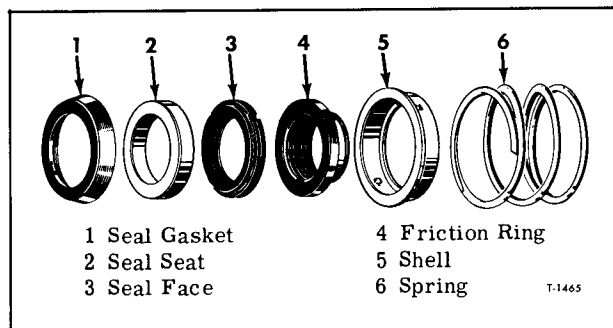

Figure 4—Hydraulic Pump and Motor Shaft Seal Components
1. Remove key (1) from keyway in shaft (18).
2. Remove bolts (17) which secure pilot (16) to mounting housing (4). Slide pilot (16) with seal seat and gasket out of housing and off shaft (18).
3. Remove seal gasket and seal seat (1 and 2, fig. 4) from pilot.
4. Using fingers, remove seal face (3, fig. 4) from shaft. Do not use metal tools as edges of seal face may be chipped.
5. Using needle-nosed pliers, remove shell, friction washer, and spring (4, 5, and 6, fig. 4) from shaft.
6. Remove lathe cut washer (3).
8. Through ports in housing (13) remove the socket-head cap screws (12).
9. Remove the hex-head bolts and lock washers (6 and 7), and with socket wrench, remove cap screws (15).
3. Inspect thrust face on drive shaft flange where contact is made with mounting housing; also inspect mating contact surface on housing (4). If the thrust surfaces are worn or scored, new parts should be used when assembling pump.
5. Inspect all of the components of drive shaft seal assembly (fig. 4). Use a new seal assembly when assembling pump if any of the parts are found to be defective or damaged.
2. Lubricate drive shaft surfaces with light weight engine oil, then insert drive shaft (18) through bearing in mounting housing (13) and install gear key (9) in keyway.
3. If gear has been removed from idler shaft (11), install key (9) in keyway and install one retainer ring (10). Install gear on shaft, then install other retaining ring (10).
4. With mounting housing and drive shaft supported with spacer plate side facing upward, and light weight engine oil applied to gears, bearings and shaft surfaces, insert idler shaft (11) into bearing in mounting housing (4). Install gear on drive shaft (18) with keyway in gear engaged with key (9).
6. Referring to mark made at disassembly, install port housing assembly (13) over ends of shafts (11 and 18) and dowel pins (8).
7. Through port openings in housing (13), install socket head cap screws (12). Tap housings with lead hammer as cap screws (12) are tightened to seat the housings at spacer plate.
8. Install hex-head bolts (6) with lock washers (7) and tighten bolts evenly and firmly. Install cap screws (15) and tighten with socket wrench.
9. Referring to figure 4, place seal seat (2) in gasket (1) and install these two parts in recess in pilot. Lapped surface on seal seat must face outward. Be sure seat gasket is down against bottom of counterbore in pilot (16).
10. **IMPORTANT:** Check exposed surfaces of drive shaft (18) for burrs and sharp edges. If necessary use polishing stone to smooth edges. Apply light engine oil on exposed end of shaft.
11. Referring to figure 4 for key numbers used in this step, assemble seal parts as follows:
a. Insert friction ring (4) inside of shell (5) so that large lip of friction ring (4) is seated beneath the two lugs in I.D. of shell (5).
1. Remove key (1) from drive shaft (22).
2. Remove bolts (21) which attach pilot (4) to mounting housing (6). Slide pilot with seal seat and gasket out of housing and off end of shaft (22).
3. Remove seal gasket and seal seat (1 and 2, fig. 4) from recess in pilot (4).
4. Using fingers, remove seal face (3, fig. 4) from shaft. Do not use metal tools as the seal face edges may be chipped.
5. Using needle nose pliers, remove shell, friction washer, and spring (4, 5, and 6, fig. 4) from shaft.
8. Remove the four valve block bolts (18), then separate valve block assembly (16) from port housing and remove four plastic shims (15). Remove O-ring (17) from groove in port housing.
9. Remove the two socket head cap screws (14) which attach the port housing (12) to mounting housing (6). Also remove the hex head bolts (8) and lock washers (9).
10. Using a soft lead hammer, tap alternately on ears of housings to gradually separate the motor body sections. The port housing assembly (12) must be removed first, then remove the spacer plate and gears (11) with idler shaft (5). Drive shaft (22) cannot be removed from mounting housing (6) until gear key (19) has been removed.
5. Inspect all components of drive shaft seal assembly (fig. 4). Use a new seal assembly when assembling motor, if any of the seal parts are found to be defective or damaged.
8. Install hex-head cap screws (8) with lock washers (9) and install cap screws (20) using 12-point socket wrench. Tighten bolts and cap screws (8 and 20) evenly and firmly.